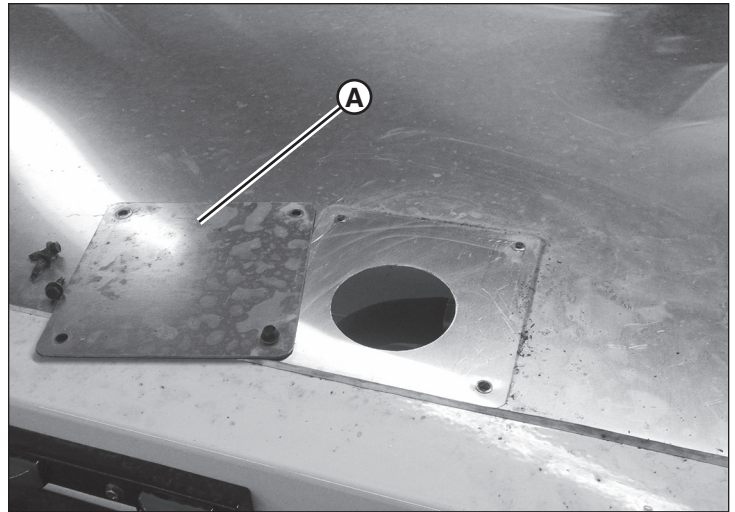

Figure 27
1. Remove the coolant fill access plate (A, Figure 27), located on the roof toward the rear of the heater trailer.